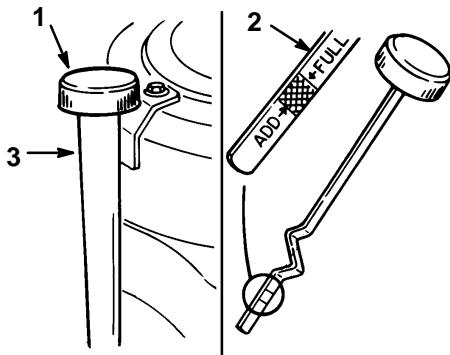

Figure 26
2. Clean around the oil dipstick (Fig. 26) so dirt cannot fall into the filler hole and damage the engine.
3. Unscrew the oil dipstick and wipe the metal end clean (Fig. 26).
4. Slide the oil dipstick fully into the filler tube, do not thread onto tube (Fig. 26). Pull the dipstick out and look at the metal end. If oil level is low, slowly pour only enough oil into the filler tube to raise the level to the "FULL" mark.
5. Slowly pour approximately 80% of the specified amount of oil specified, page 27, into the filler tube (Fig. 26). Now check the oil level; refer to Checking Oil Level, page 28. Slowly add additional oil to bring to "FULL" mark on dipstick.